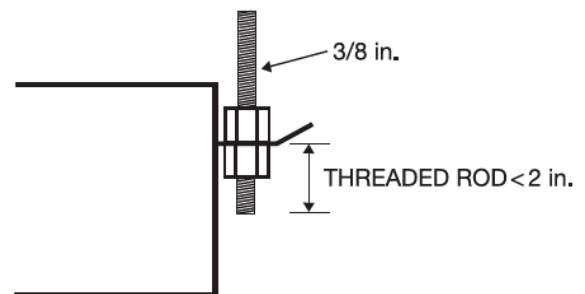

Fig. 9 — Threaded Rod
3. Secure the unit in position with locknuts and washers on both sides of the mounting bracket. Ensure that the threaded rod does not protrude more than 2 in. below the mounting brackets as shown in Fig. 9.